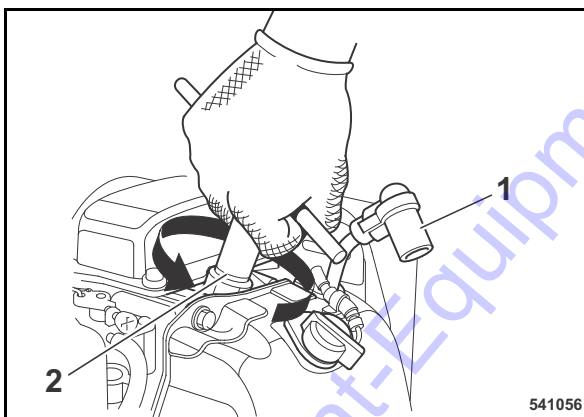

Fig. 40
- Pull off the spark plug socket (1) (Fig. 40).